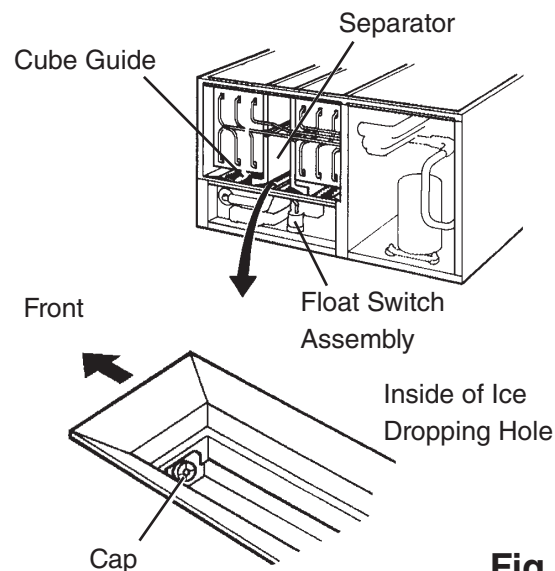

Fig. 17
- 7) Remove the insulation panel. Remove the cap located on the front bottom part of the ice dropping hole. Drain the water tank. See Fig. 17.
- 5) Remove the cap located on the front bottom part of the ice dropping hole. Drain the water tank. See Fig. 17.